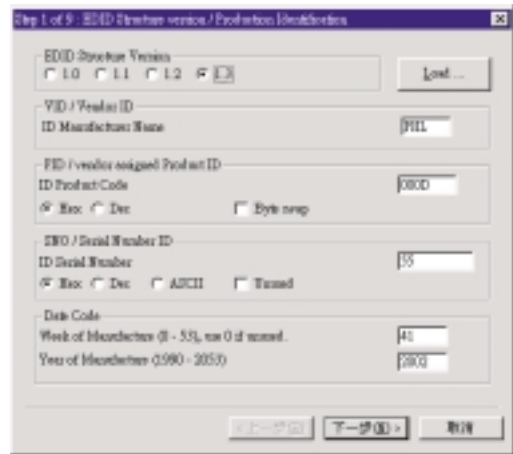

Fig. 14
- 1. Click icon (new function) from the tool bar, bring up Step 1 of 9 as shown in Fig. 14 . EDID301 DDC application provides the function selection and text change (select & fill out) from Step 1 to Step 9.